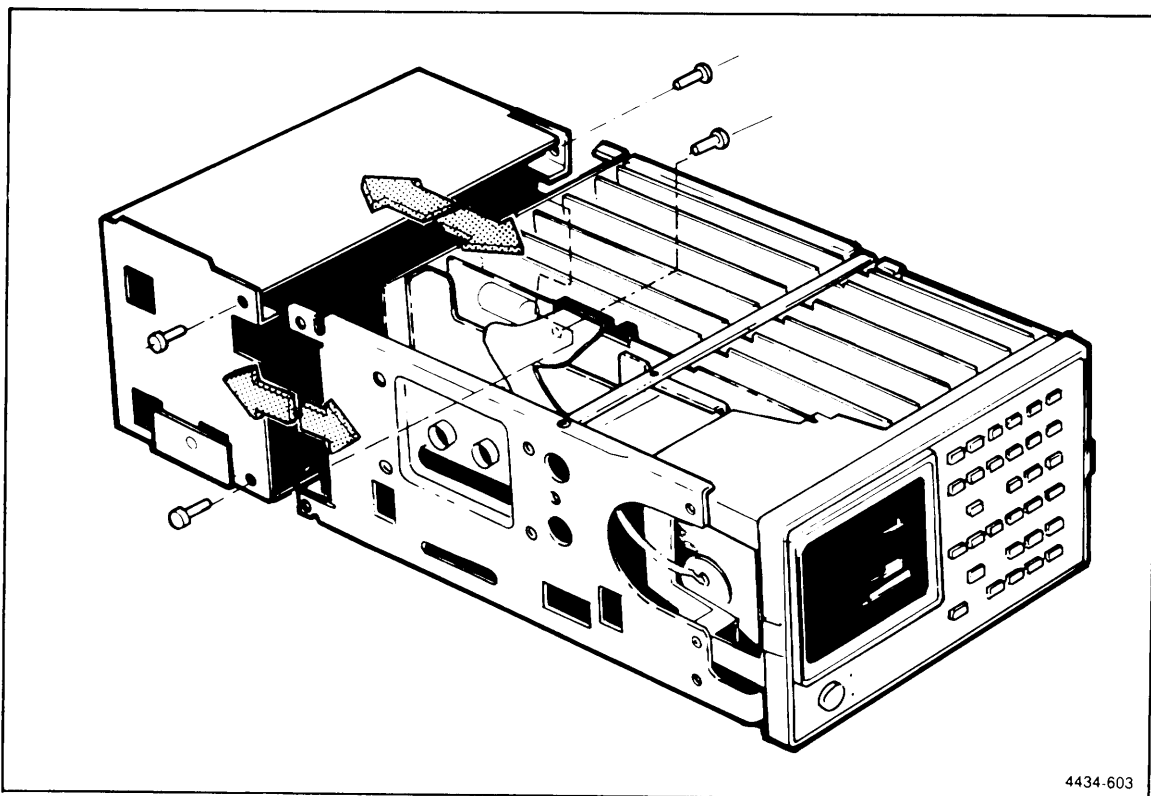

Figure 6-5. Power Supply Removal.
2. Support the power supply assembly with one hand while removing the four screws that fasten it to the main chassis. Lift off the power supply assembly. Refer to Figure 6-5.